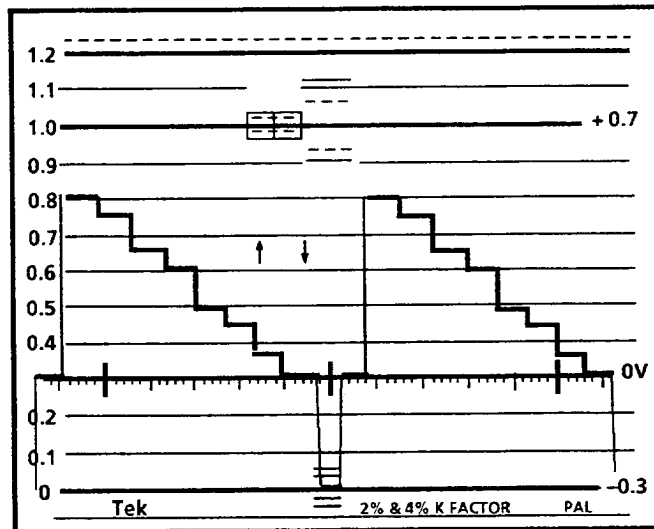

Figure 1-8: 2 Line display of color bar signal with Low Pass filter on
- a. Press and hold the FILTER button to get the front-panel LPASS indicator to light. This provides the low-pass frequency response; the chrominance component of the signal has been removed. See Figure 1-8.